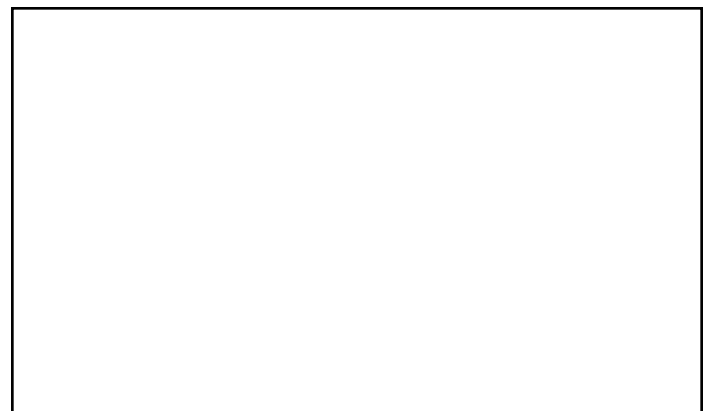

Figure 39
If additional height is required for lifting high ground clear-ance vehicles, the crossmember can be turned upside down to provide a higher platform. (See Figure 39.) Bridg-ing the treadways in this fashion provides an addi-tional 5 inches of height.
**CAUTION:** When crossmember is installed as shown in Figure 39, use extreme caution.